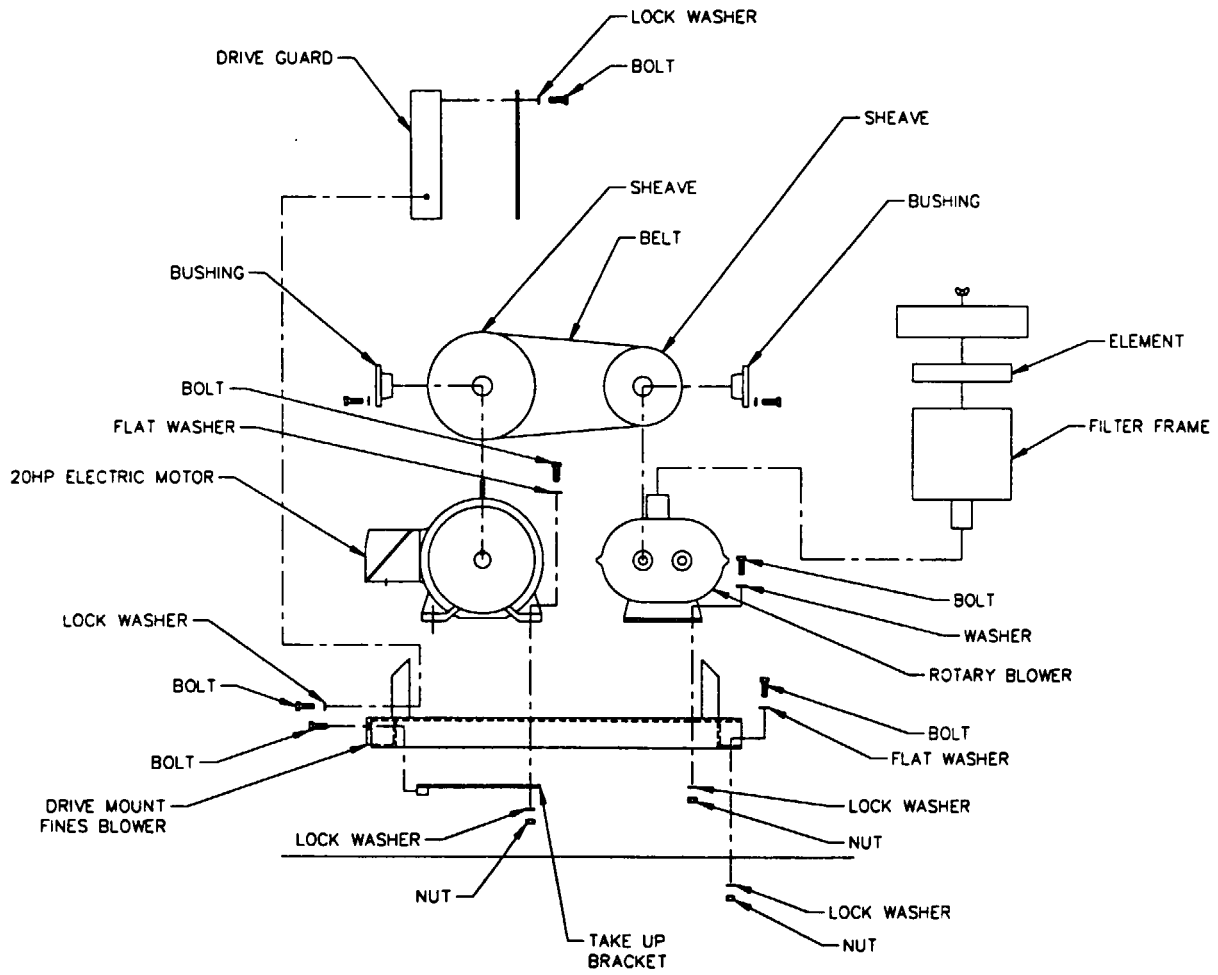

Figure 3-30 Fines Blower Assembly.
3-5-8 Fines Blower Assembly Removal, Repair and Replacement See figure 3-30.
7. Remove the blower line (not shown in figure 3-30) from the blower.